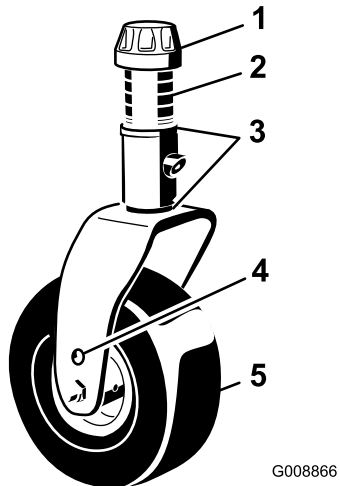

Figure 26
3. Adjust the shims (3 mm or 1/8 inch) on the front caster fork(s) to match the height-of-cut decal (Figure 26); refer to Adjusting the Mower-Deck Pitch (page 56).